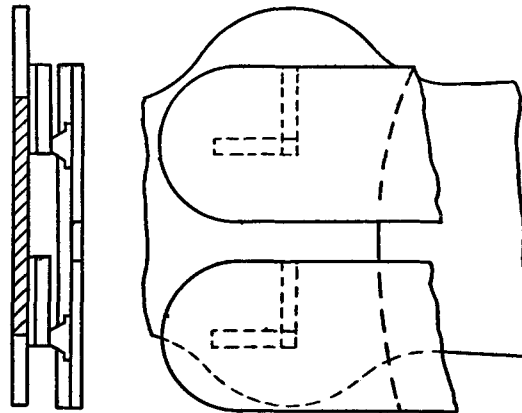

Fig. 5—Switch Assembly Contact Alignment
3.05 Contact Alignment: Contacts shall line up so that the contacting surface of each contact, throughout the entire range of operation, falls within the length of the other mating contact. Judge visually. Replace set if contacts are obviously out of line. (See Fig. 5.)